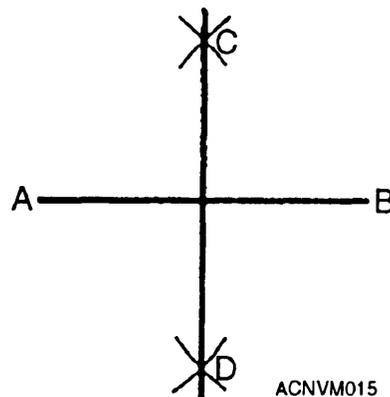

Figure 12-15.—Constructing a 90-degree angle by bisecting a line.
1. For the first method, break out your dividers, a scribe, and a straightedge. Draw a base line like the one labeled  $AB$  in figure 12-15. Set the dividers for a distance greater than one-half  $AB$ , then, with  $A$  as a center, scribe arcs like those at  $C$  and  $D$ . Then, without changing the setting of the dividers, use  $B$  as a center, and scribe another set of arcs at  $C$  and  $D$ . Draw a line through the points where the arcs intersect and you will have perpendiculars to line  $AB$ , forming four 90-degree or right angles. Not only have you constructed a